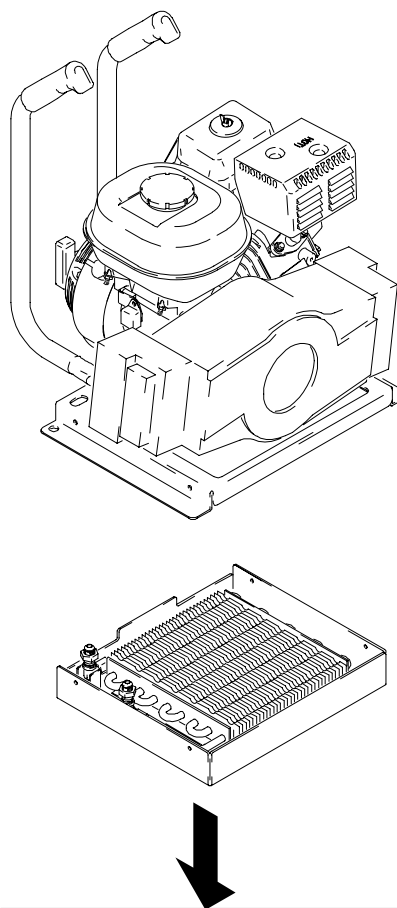

Fig. 19
6. Remove screws securing bottom to Compressor Power Pack (Z) . Separate the Compressor Power Pack (Z) from the bottom. Fig. 19.